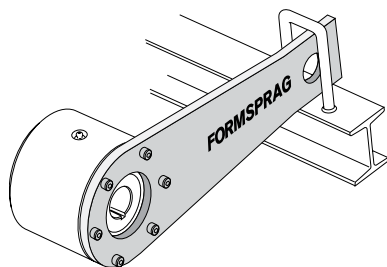

Figure 5
For TORQUE ARM DESIGNS (see Figure 5) AND FSO TORQUE ARMS LISTED IN CATALOG P-956.
- Mount torque arm (purchased separately) to seal end of backstop. The torque arm is required to hold the backstop outer race when backstopping torque is applied in service. Secure torque arm to outer race with machine or cap screws. Use screws in all tapped holes (see Figure 5).